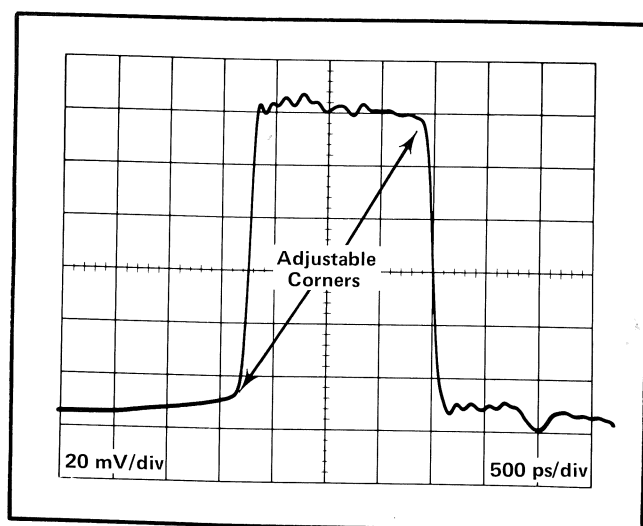

Fig. 6-13. Pulse waveform showing proper adjustment of the Snap-off control R81 (Step 10).
e. Adjust R81 to obtain corners that are as square as possible at the bottom front and top rear corners of the pulse. See Fig. 6-13, which shows a typical, properly adjusted pulse waveform. The control position should be near the clockwise end of rotation.